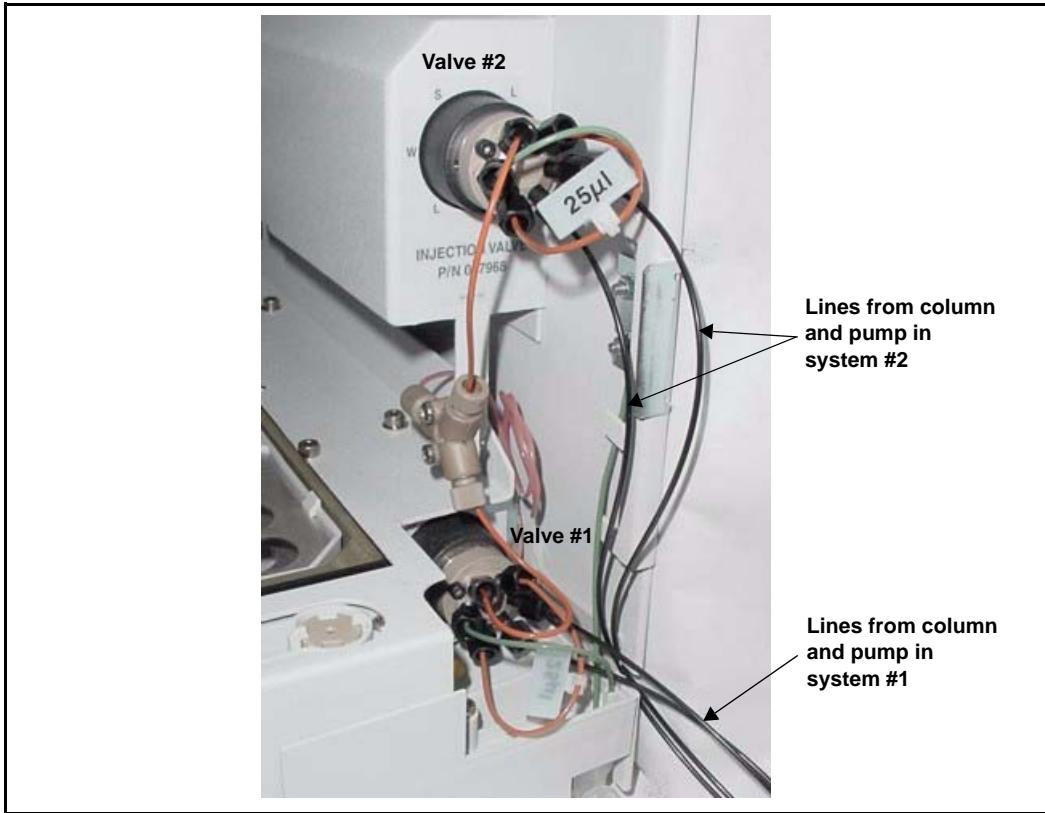

Figure E-5. Routing Pump and Column Lines to AS50 Injection Valves
1. Route the outlet lines from the pump and column in both IC systems through the slot on the right side of the AS50 (see Figure E-5).